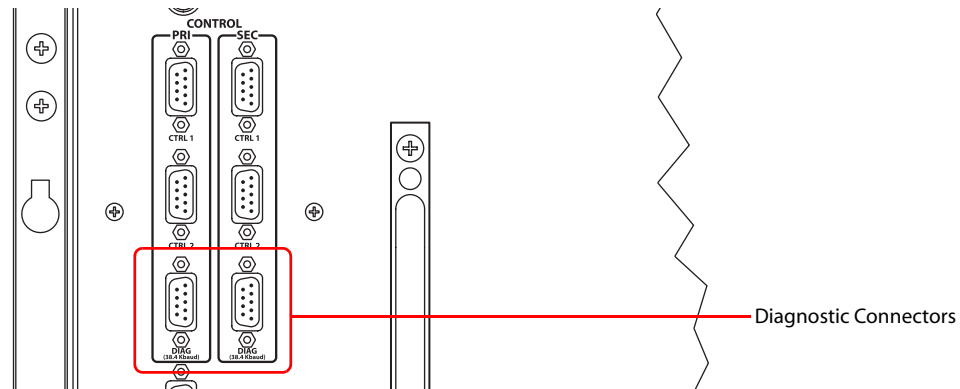

Figure 1-28. Permanent Diagnostic Connections (Rear View)
Diagnostic connections connect the router to the computer (PC) running the UniConfig application. Two diagnostic connections are located on the rear of the router, labeled ‘DIAG’. The ports are divided into two sets: one primary (‘PRI’) and one secondary (‘SEC’), as shown in Figure 1-28. The primary control connects to the primary control card. The secondary control connects to the